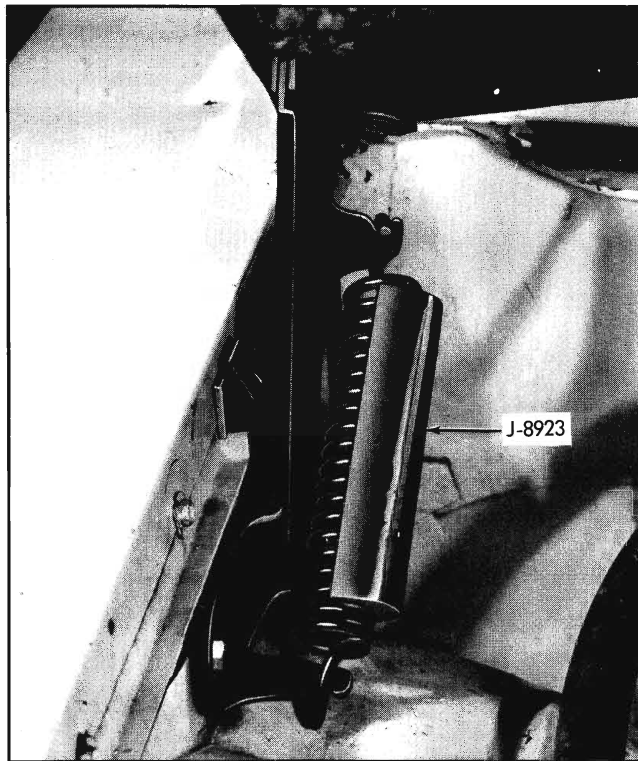

Fig. 10-13 Hood Spring Tool J-8923
2. Insert tool J-8923 on spring (Fig. 10-13).